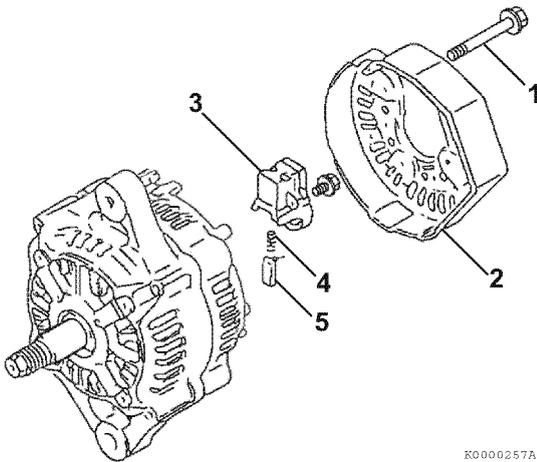

Figure 12-7
2. Remove the three bolts (1, **Figure 12-7**) retaining the rear cover (2, **Figure 12-7**) to the rear frame assembly.
3. Remove the brush holder (3, **Figure 12-7**). Remove the brush springs (4, **Figure 12-7**) and brushes (5, **Figure 12-7**).